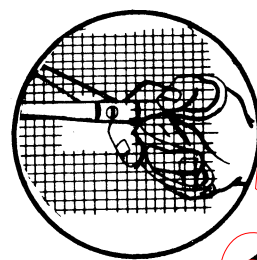

Fig. 1
1. Trim the hole in the screen to make smooth edges. (Fig 1.)